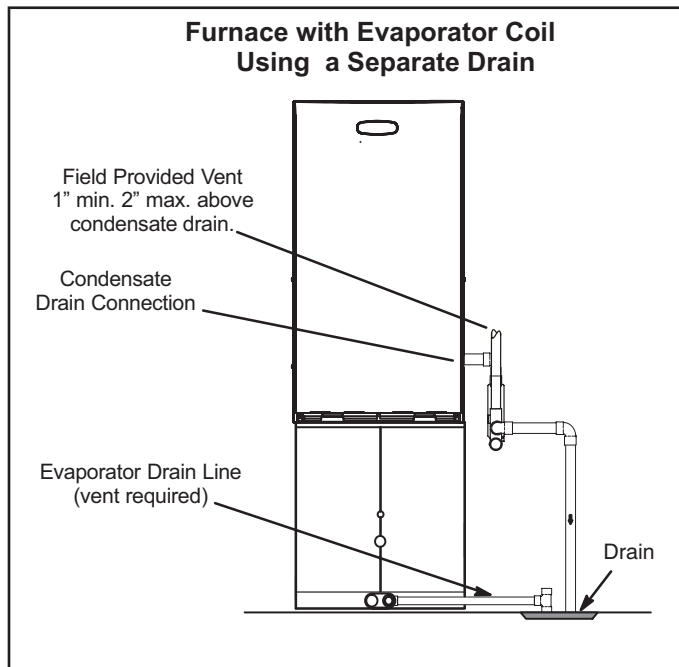
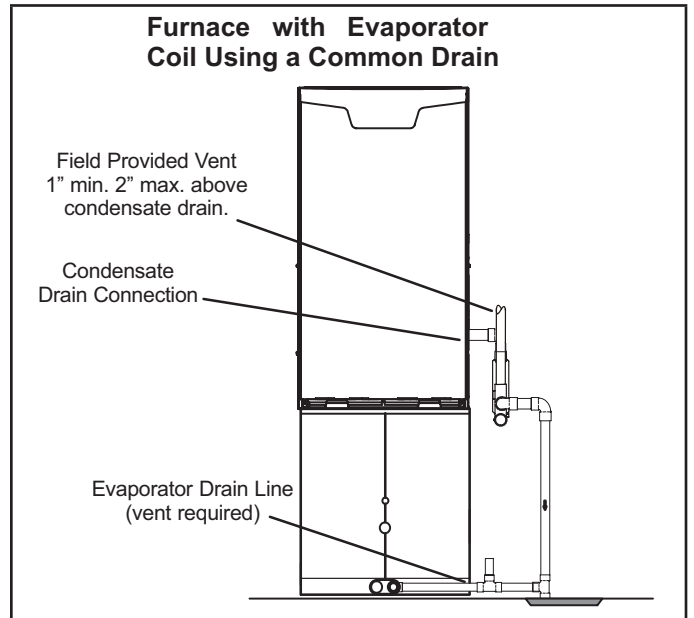

FIGURE 37
FIGURE 38
- 5 - Figure 37 shows the furnace and evaporator coil using a separate drain. If necessary, the condensate line from the furnace and evaporator coil can drain together. See figures 38 and 39. The field provided vent must be a minimum 1" to a maximum 2" length above the condensate drain outlet connection.